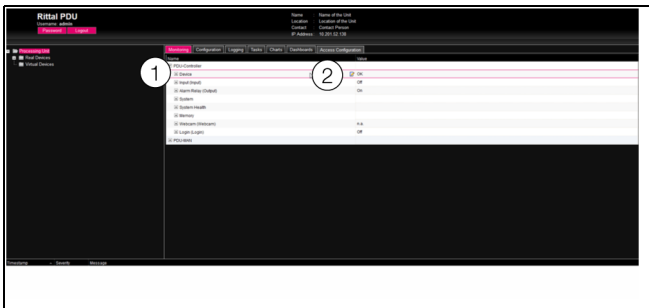

Fig. 57: Select multiple parameters
- Simply open the "PDU-Controller" entry by clicking on the "plus" symbol in front of that entry (fig. 57, item 1).
- Position the mouse pointer at the end of the first column in the "Device" line (fig. 57, item 2).